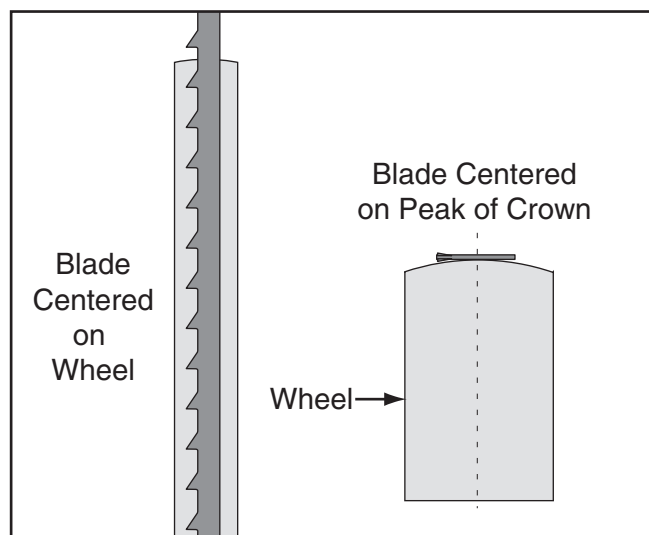

Figure 18. Blade centered on crown of wheel.
Bandsaw wheels are either flat or crowned and both shapes track differently. This bandsaw has crowned wheels. As the wheels spin, a properly tracking blade naturally tracks at the center of the wheel (see **Figure 18**).
5. Open upper wheel cover, rotate upper wheel by hand several times and watch where blade rides on wheel crown (see **Figure 18** for an illustration of this concept).